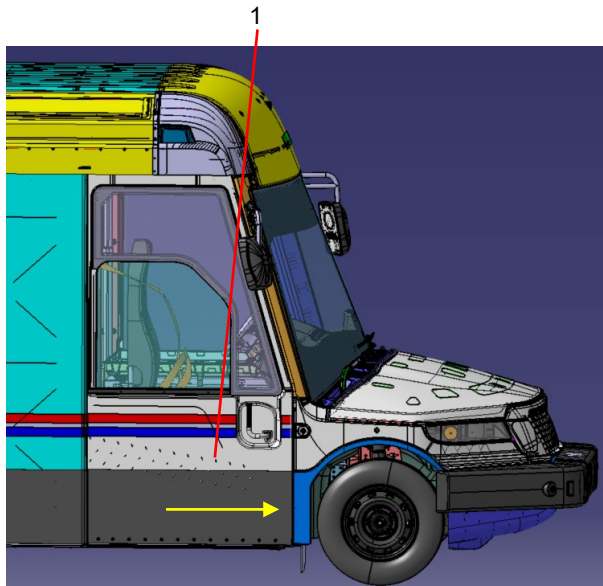

Figure 4. Impact Warning Label Installation.
- 4) Position the curbside door (Figure 4, Item 1) in the “closed” position and return the vehicle to service.